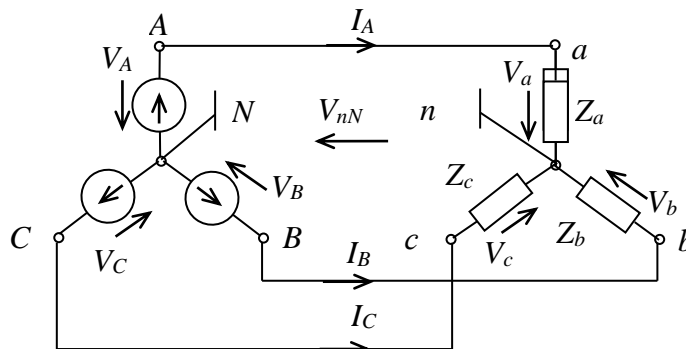

Fig. 6.3
where V_A , V_B , V_C – are *source phase voltages* (between the lines and neutral point N (fig. 6.3)). These voltages in complex form are presented as:
The most common types of connection the three-phase sources and consumers are WYE (Y) (fig. 6.3) and DELTA (Δ).
At WYE connection the ends of source phases windings (fig. 6.3) are connected in common neutral point N , and the beginnings of phases A, B, C are connected to the linear wires. The ends of consumer phase windings (fig. 6.3) are connected in common neutral point n , and the beginnings of phases a, b, c are connected to the linear wires.
If the load is unbalanced ($\underline{Z}_a \neq \underline{Z}_b \neq \underline{Z}_c$) the voltage between the neutral points of source and consumer appears – \underline{V}_{nN} (fig. 6.3). This voltage is called the *bias neutral* and can be calculated by using the method of two nodes: